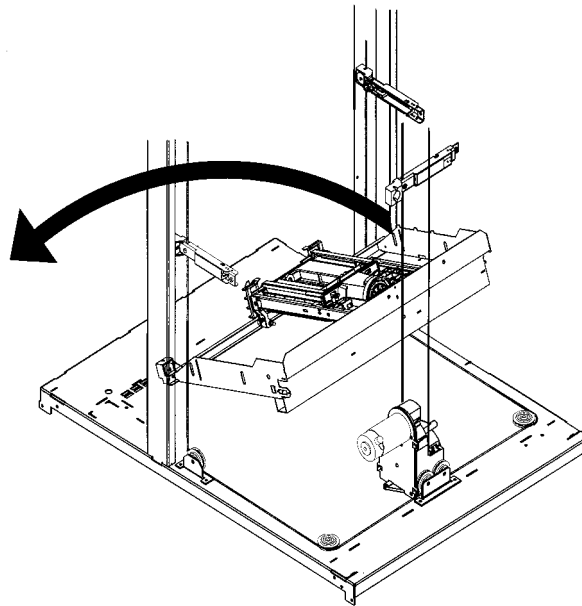

Figure 35: Rotating the Translate Frame Out of the Chassis
8. Rotate the rear of the translate frame up and then remove the frame out to the side (see Figure 35).